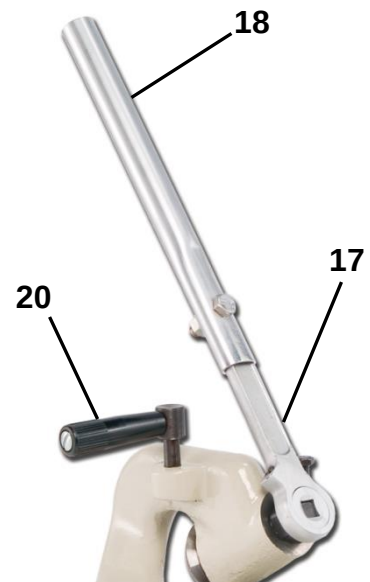

figure 2
3. Screw the stop handle **#20** into the tapped hole at the top of the shear body as shown in (fig. 2).